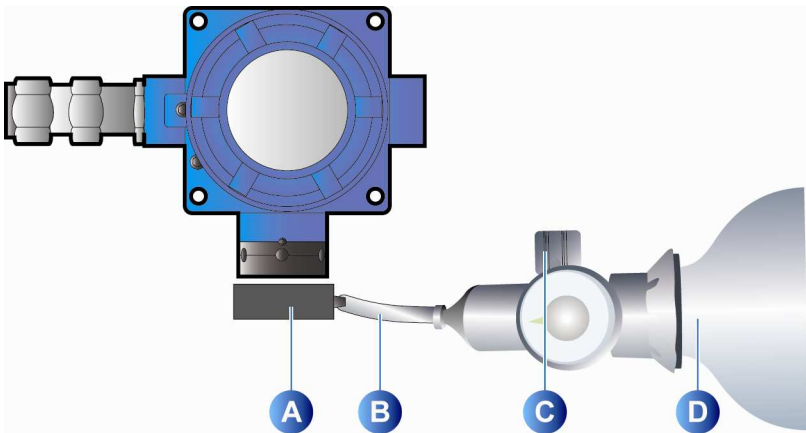

Figure 17 : Sensitivity adjustment (OLC100).
2. Place the calibration shroud on the detector head (Figure 17, "A").